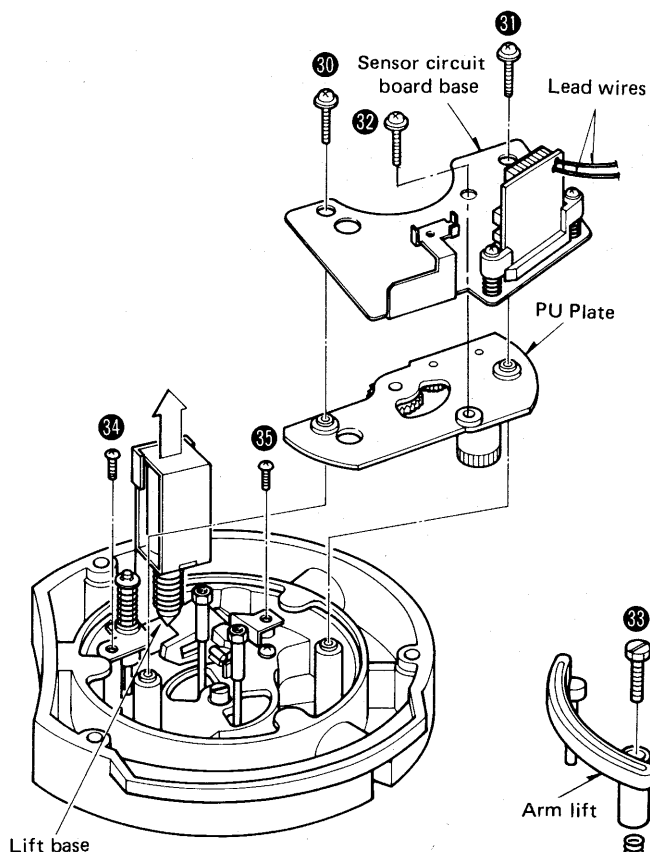

Fig. 8
4. Remove the 3 setscrews (Fig. 8 : 30 ~ 32), and then the sensor circuit board base and PU plate can be removed.
4. Remove the 2 lift base setscrews (Fig. 8 : 34 , 35) and the lift base in the direction of the arrow.